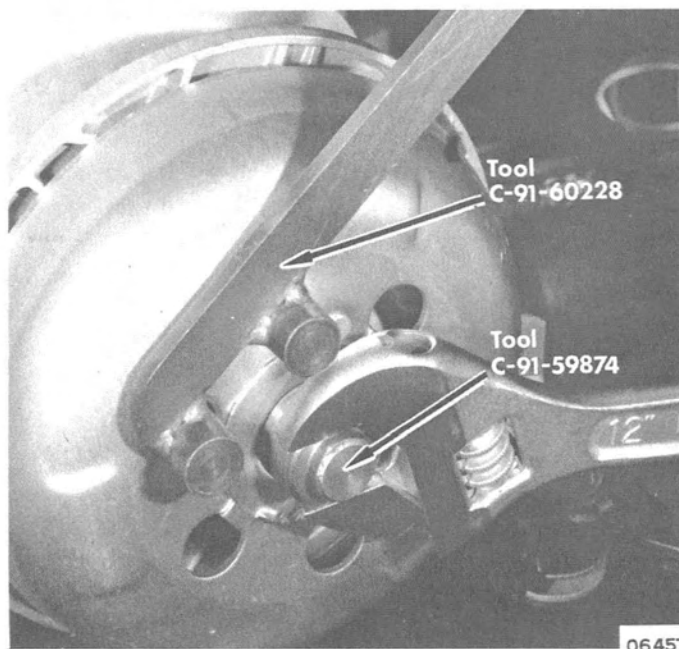

Figure 3. Removing Sheave from Crankshaft with Tools C-91-59874 and C-91-60228
7. Install Tool C-91-59874 in drive sheave. Hold ramp plate in position with Sheave Holder (C-91-60228) and operate puller to remove sheave assembly. (Figure 3)